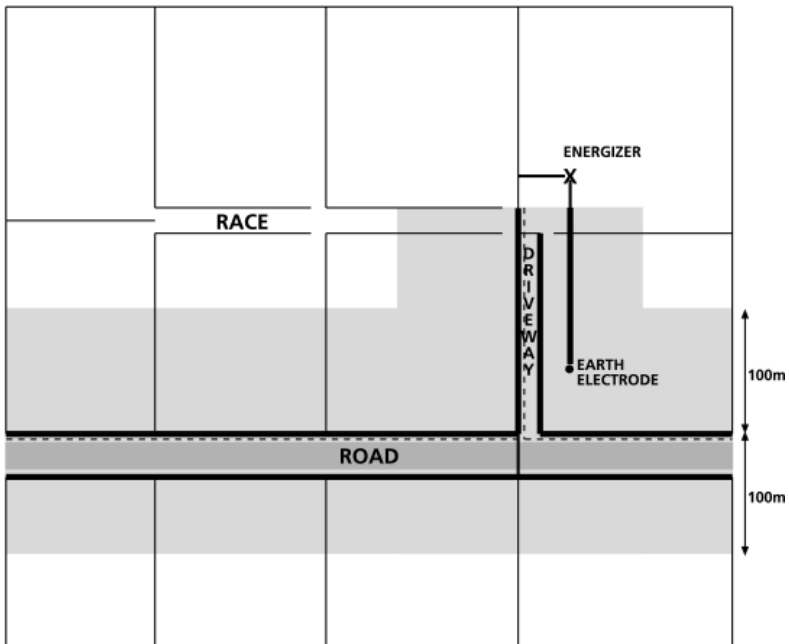

Fig 8.3
shown in figure 8.3. Electric fence wires within the shaded area are the most likely to cause interference due to their close proximity to the communication cables or lines.
4. Highlight on the plan those fence wires that run parallel to communication cables or lines, and are within 100m of them as shown in figure 8.3. Those at right angles to cables or lines will not normally cause significant interference and may be ignored.